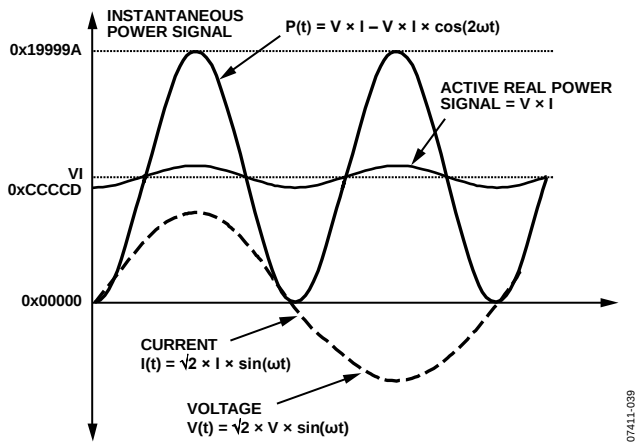

Figure 64. Active Power Calculation
Note that the active power is equal to the dc component of the instantaneous power signal,  $P(t)$ , in Equation 9, that is,  $V_I$ . This is the relationship used to calculate active power in the ADE5166/ADE5169/ADE5566/ADE5569. The instantaneous power signal,  $P(t)$ , is generated by multiplying the current and voltage signals. The dc component of the instantaneous power signal is then extracted by LPF2 (low-pass filter) to obtain the active power information (see Figure 64).
As mentioned in the Active Energy Calculation section, the discrete time sample period (T) for the accumulation register is 1.22  $\mu$ s (5/MCLK). With full-scale sinusoidal signals on the analog inputs and the WGAIN register (Address 0x1D) set to 0x000, the average word value from each LPF2 is 0xCCCCD (see Figure 64). The maximum positive value that can be stored in the internal 49-bit register is  $2^{48}$  (or 0xFFFF FFFF FFFF) before it overflows. The integration time under these conditions when WDIV = 0 is calculated in the following equation: